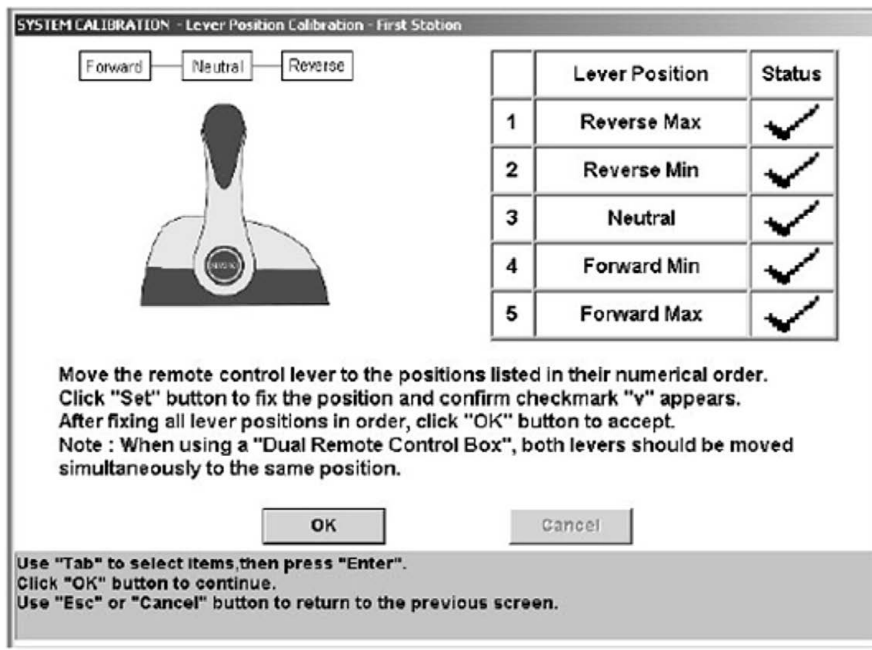

Figure 6-14. Save calibrated values.
- When all lever positions have been set, and the screen shows check marks next to all of them (see Figure 6-14), return the control levers to the neutral position and click **OK** to save the calibration.